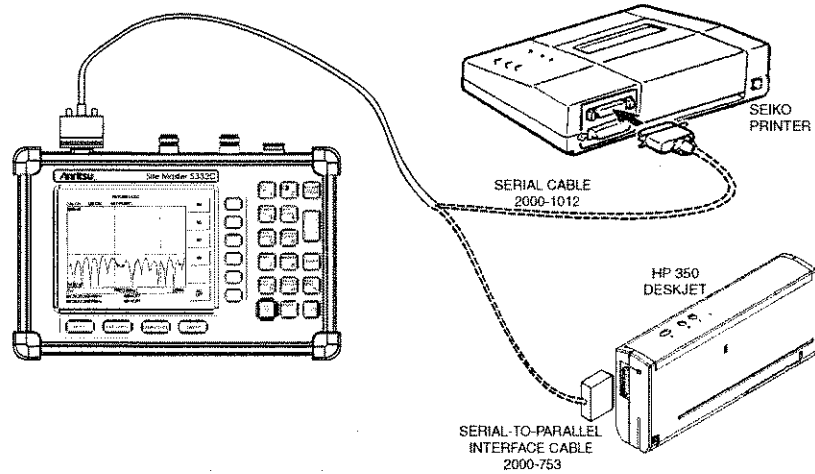

Figure 3-4. Site Master Printer Setup
Step 1. Connect the printer as shown in Figure 3-4.